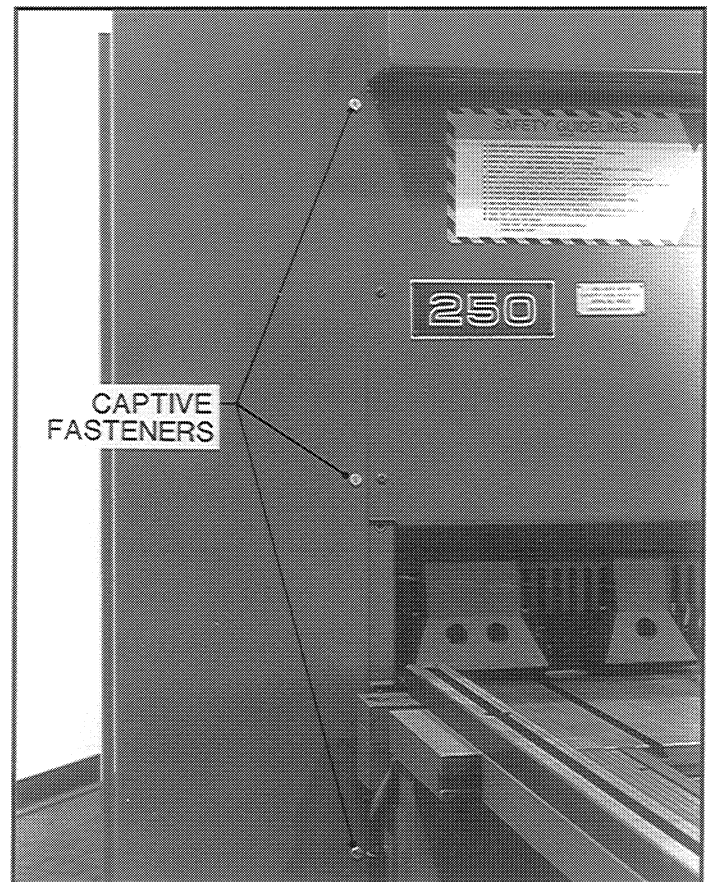

FIGURE 9-22 - Cylinder guards
- Disengage the captive fasteners on the cylinder guards by turning them counterclockwise. Refer to Figure 9-22.